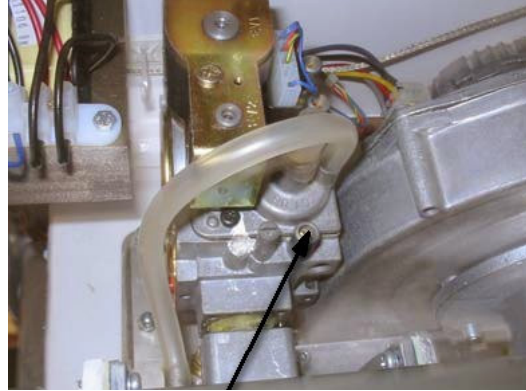

Figure 1 - Gas Inlet PTN
2. Once the casing has been removed keeping your hands away from exposed electrical components and connections, switch the electrical power supply to the appliance back on. Prior to commencing the adjustment procedure, the boiler should be brought up to the normal working temperature, a gas working pressure of at least 18mbar should be present at the gas inlet test nipple (see Figure 1) and the thin neoprene plastic pipe between the venturi and gas valve should be in place/sound.